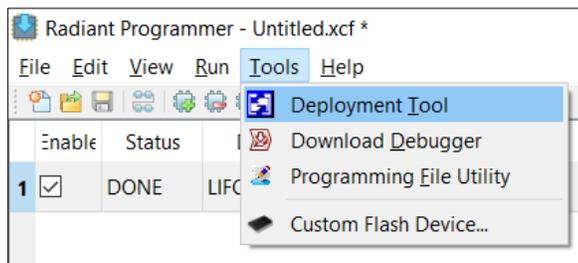

Figure 6.4. Launch Radiant Deployment Tool from Radiant Programmer
1. Launch the Radiant Deployment Tool from Radiant Programmer by clicking **Tools > Deployment Tool** (Figure 6.4).